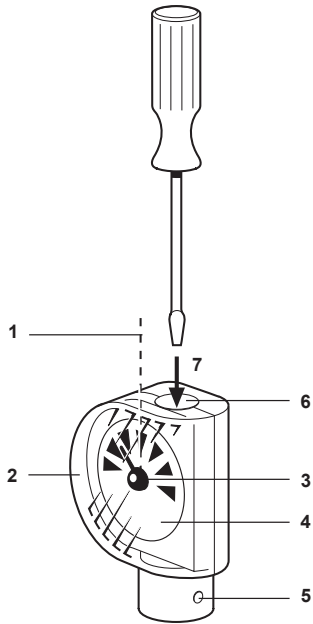
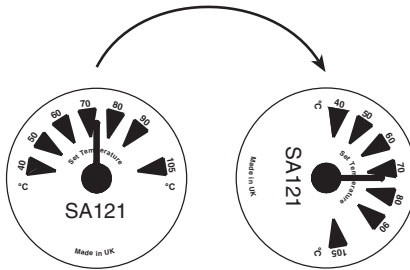

Fig. 2a
Fig. 4 Rotation of the temperature scale
For the following instructions you should make reference to Figure 2a except where stated:-
In some instances it may be necessary to rotate the scale to make the set temperature more easily read. In such cases the following procedure should be adopted making reference to Figure 2a and Figure 4 except where stated:
1. Remove the tamper-proof plug (6) and use a suitable screwdriver to set the indicator (3) to the midway point (1).
2. Remove the transparent cover (2).
3. Remove the indicator (3).
4. Remove the scale (4) from the indicator and relocate to the desired position i.e. Figure 4.
5. Replace the indicator (3) to the midway point of the scale (1).
6. Replace the transparent cover (2).